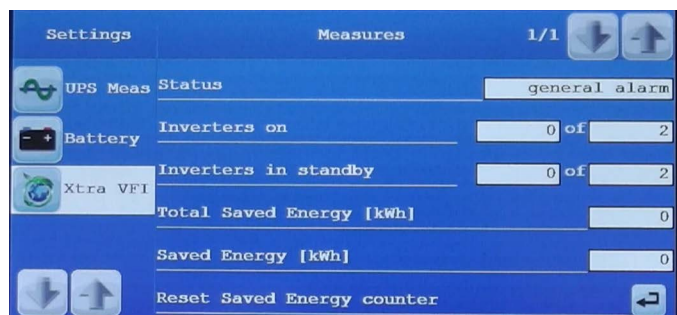

Figure 3.7 MEASURES screen (Xtra VFI)
**Xtra VFI Measures (Figure 3.7)**